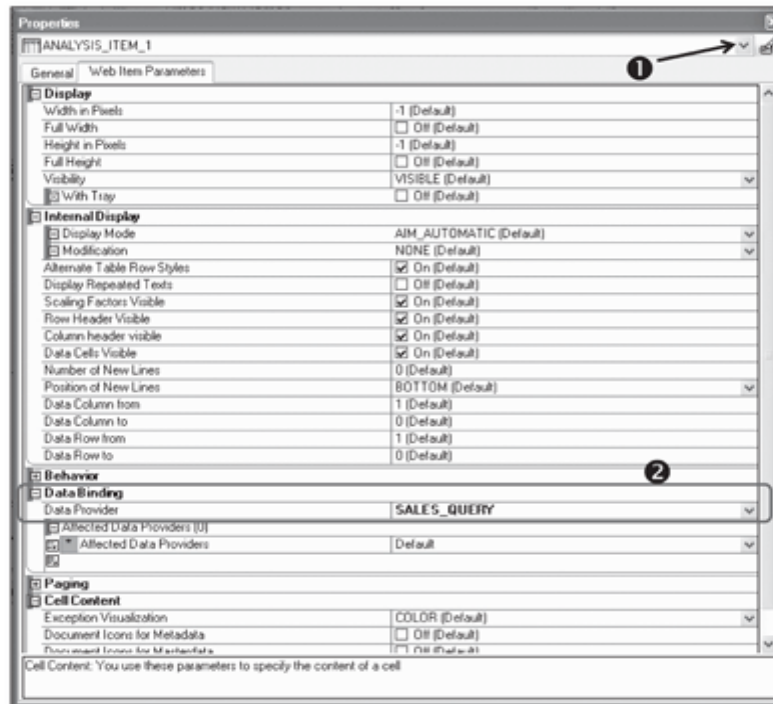

Figure 11.6 Maintain Properties of Analysis Web Item
You can change the name of the web item by clicking on the Edit icon shown in ❶ of Figure 11.6. You can control the display and behavior of the web item in the application by setting different parameters on this screen.
If the web item is based on a data provider or changes to this web item can impact other data providers (affected data providers), then these settings for the web item are maintained under the Data Binding section of the properties (see ❷ of Figure 11.6).